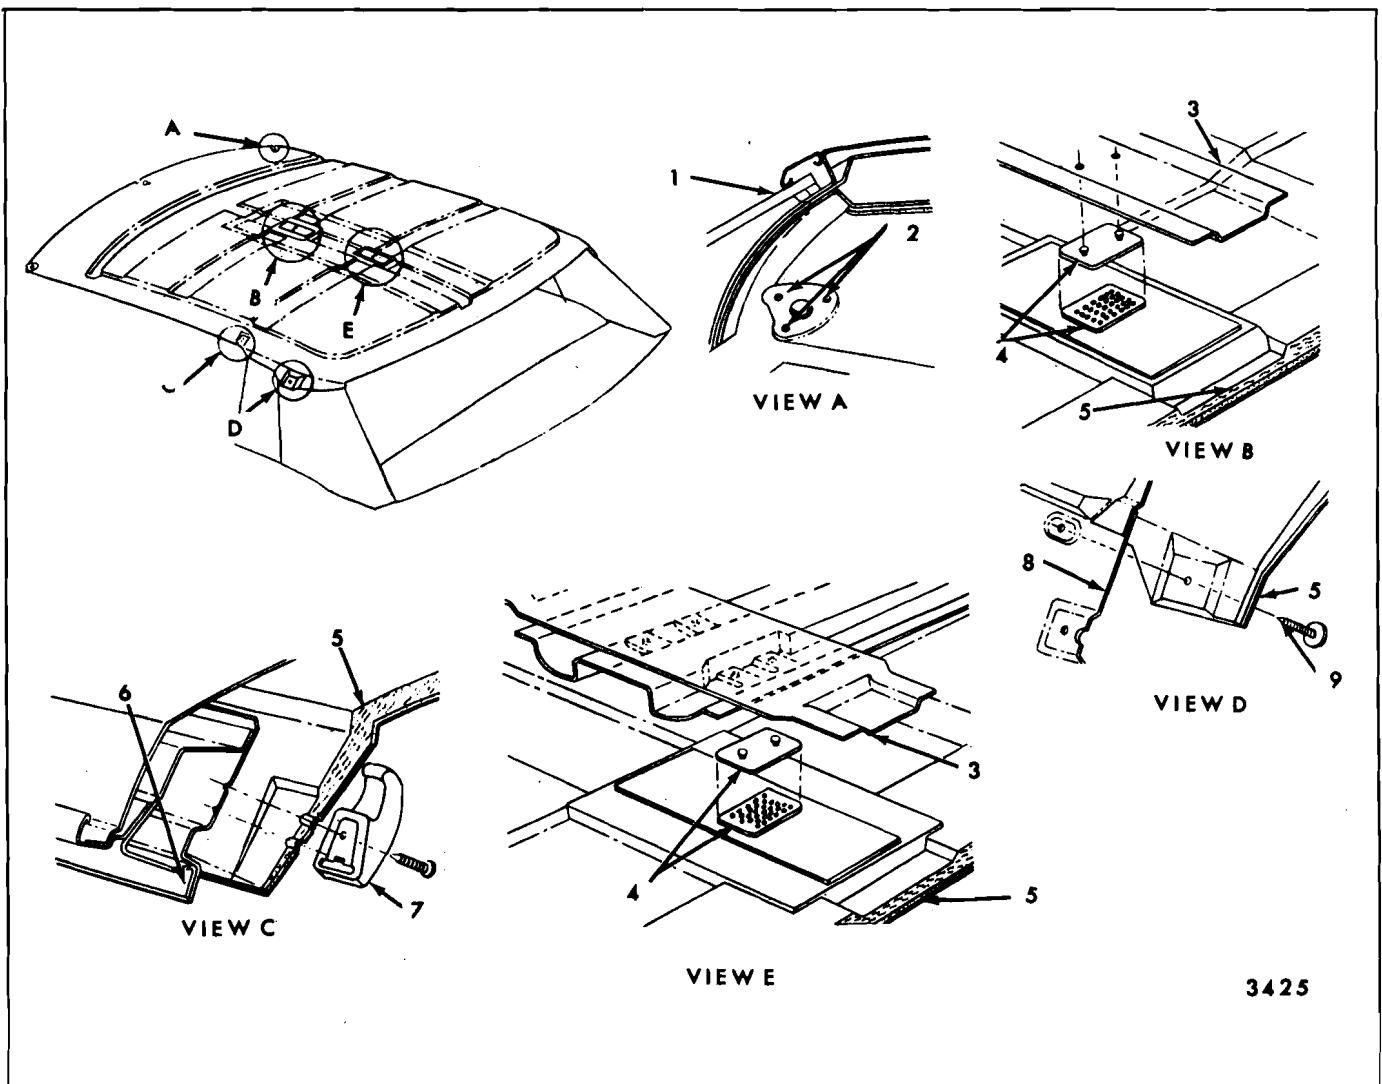

Fig. 11-4—One Piece Headlining
2. Remove the screws located in the upper rear corner of the headlining (see Fig. 11-4, View "D").
3. Disengage the snap fasteners and carefully lower headliner from roof panel (see Fig. 11-4, View "E" & "B").
4. Install screws in the sail area and sunshade brackets (see Fig. 11-4, Views "A" and "D").
6. Engage snap fasteners (see Fig. 11-4, View "B" & "E") by placing flat of hand on back side of snap fastener and press upward until it engages.